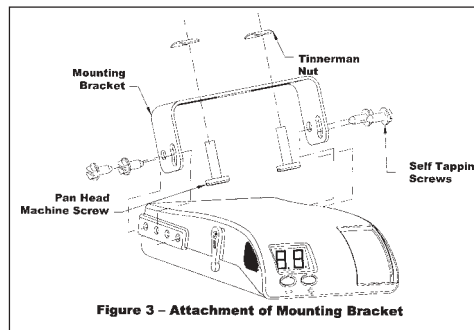

Figure 3 - Attachment of Mounting Bracket
1. Install the mounting bracket to a solid surface under the tow vehicle dash using the two machine screws and fasteners provided. Tighten until snug. See **Figure 3 - Attachment of Mounting Bracket.**